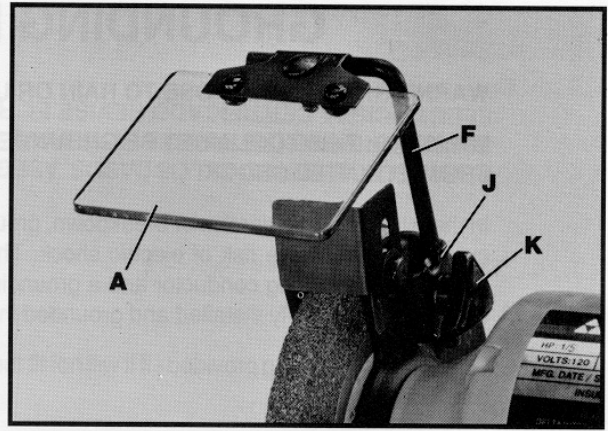

Fig. 6
3. To assemble the eyeshield to the grinder, insert rod (F) Fig. 6, into bracket (J) and fasten in place using lock washer and locking knob (K). The eyeshield (A) is fully adjustable so it can be put in any position by moving the shield (A) or loosening locking knob (K) and moving rod (F).